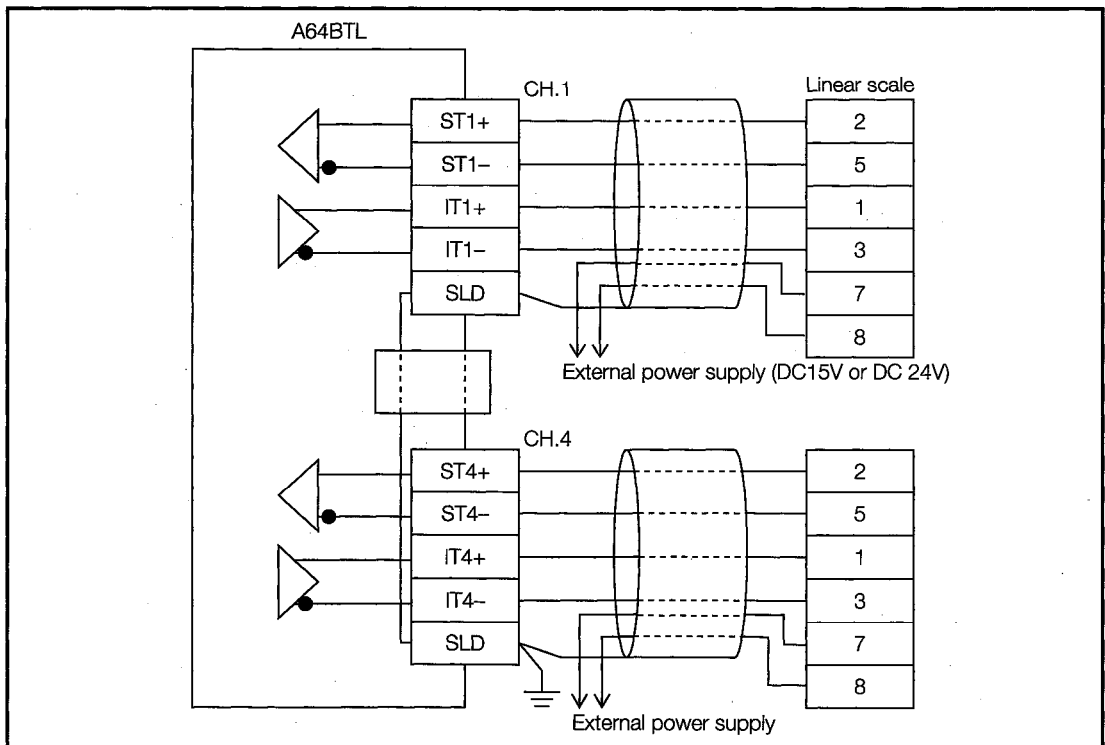

Fig. 4.2 Wiring the A64BTL and peripheral equipment
- (1) Fig. 4.2 shows an example of how the A64BTL should be wired to peripheral equipment.